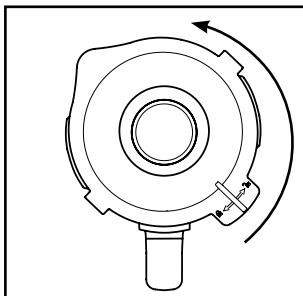

Fig. 1
- 1) Remove the blender ③ from the motor block ⑥ in a vertical, upward motion.
- 2) Remove the lid ② by rotating it anticlockwise towards position  (see Fig 1) until you can pull it upwards.
- 3) Fill the blender ③ to at least to the lowest line of the scale ⑧ and at most to the MAX mark. For optimum results, we recommend the following maximum filling quantities: